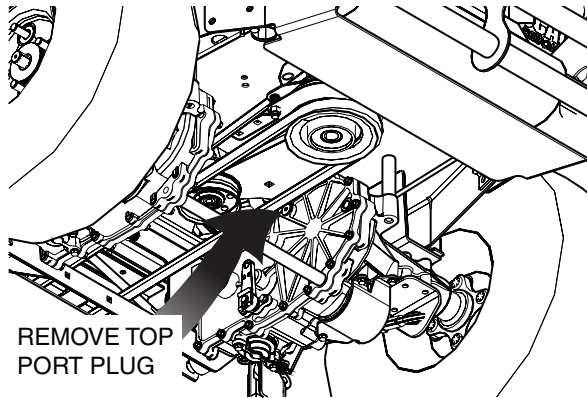

Figure 7-3. Top Port Plug Location
- Remove the top port plug from both axles before filling with oil. See Figure 7-3.